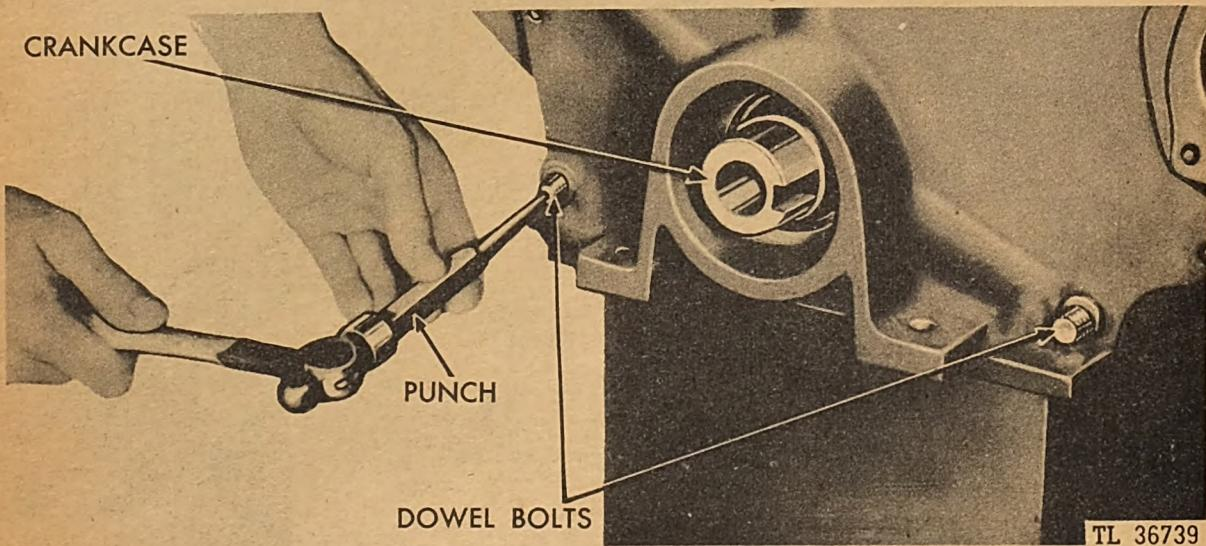
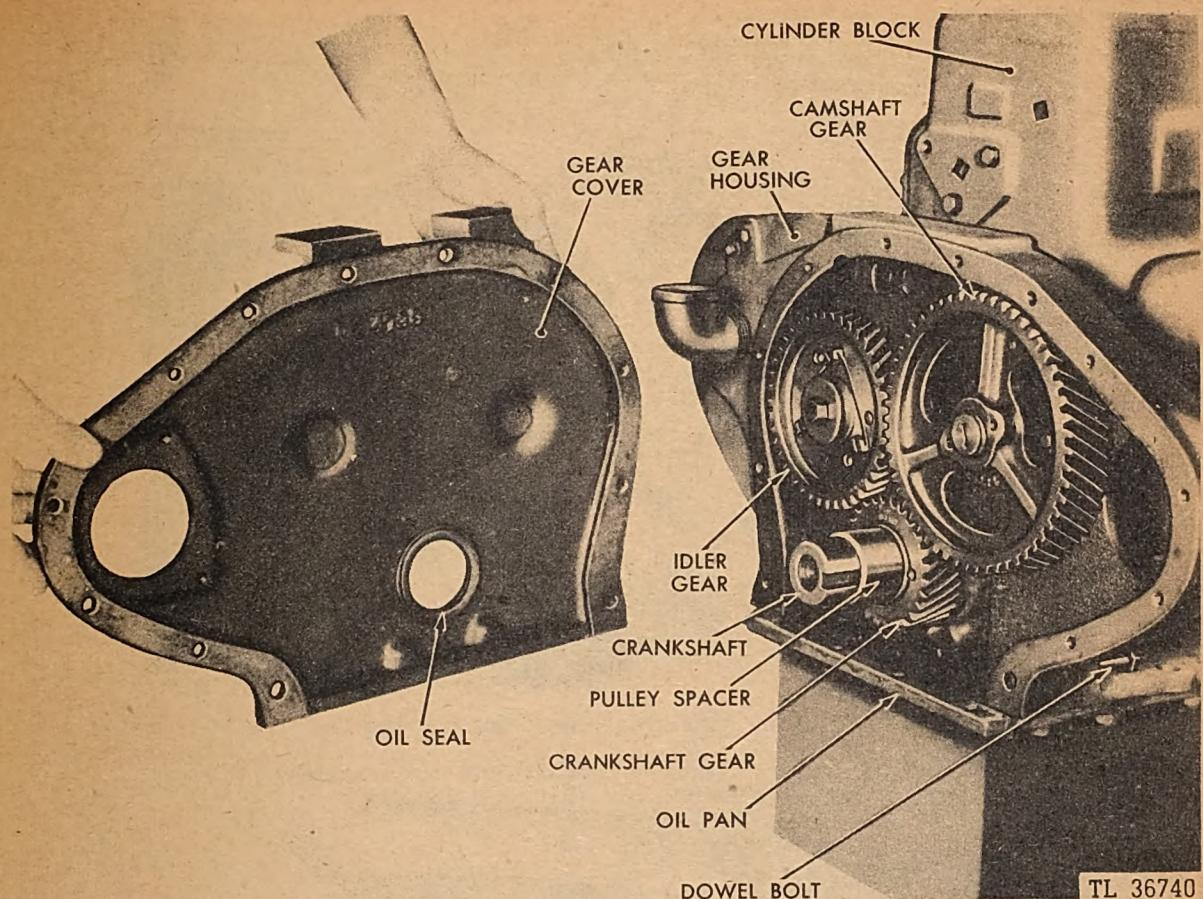

Fig. 87. Removing Gear Housing Cover Dowel Bolts
Fig. 88. Removing Gear Housing Cover
d. *Removing Gear Cover.* Unscrew the fourteen capscrews (ten capscrews, gear cover to housing, and four capscrews, oil pan to gear cover) holding the gear cover to the housing. Unscrew the two dowel bolt nuts and drive the dowel bolts from the cover and housing with a brass drift and hammer. (See Figure 87.) Pull the gear cover from the housing. (See Figure 88.)